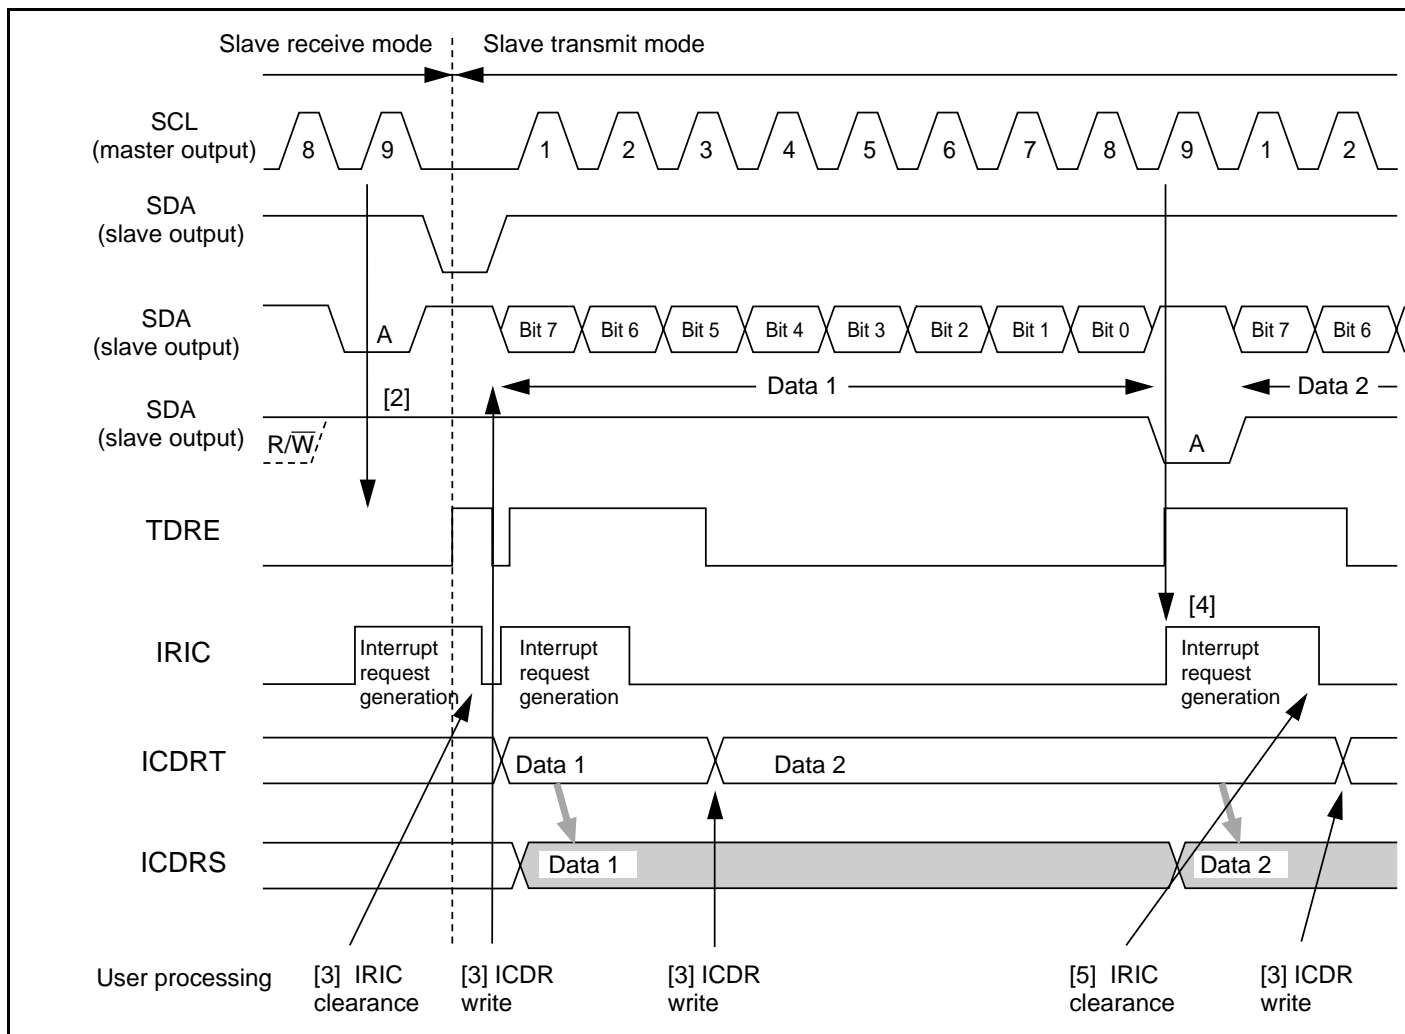

Figure 18.16 Example of Slave Transmit Mode Operation Timing (MLS = 0)
- (1) Set the ICE bit in ICCR to 1. Set the MLS bit in ICMR and the MST and TRS bits in ICCR according to the operating mode.
- (2) When the slave address matches in the first frame following detection of the start condition, the slave device drives SDA low at the 9th clock pulse and returns an acknowledge signal. At the same time, the IRIC flag in ICCR is set to 1. If the IEIC bit in ICCR has been set to 1, an interrupt request is sent to the CPU. If the 8th data bit (R/\overline{W}) is 1, the TRS bit in ICCR is set to 1, and the mode changes to slave transmit mode automatically. The TDRF flag is set to 1. The slave device drives SCL low from the fall of the transmit clock until ICDR data is written.
- (3) After clearing the IRIC flag to 0, write data to ICDR. The TDRE internal flag is cleared to 0. The written data is transferred to ICDRS, and the TDRE internal flag and the IRIC and IRTR flags are set to 1 again. After clearing the IRIC flag to 0, write the next data to ICDR. The slave device sequentially sends the data written into ICDR in accordance with the clock output by the master device at the timing shown in figure 18.16.
- (4) When one frame of data has been transmitted, the IRIC flag in ICCR is set to 1 at the rise of the 9th transmit clock pulse. If the TDRE internal flag has been set to 1, this slave device drives SCL low from the fall of the transmit clock until data is written to ICDR. The master device drives SDA low at the 9th clock pulse, and returns an acknowledge signal. As this acknowledge signal is stored in the ACKB bit in ICSR, this bit can be used to determine whether the transfer operation was performed normally. When the TDRE internal flag is 0, the data written into ICDR is transferred to ICDRS, transmission is started, and the TDRE internal flag and the IRIC and IRTR flags are set to 1 again.
- (5) To continue transmission, clear the IRIC flag to 0, then write the next data to be transmitted into ICDR. The TDRE flag is cleared to 0.